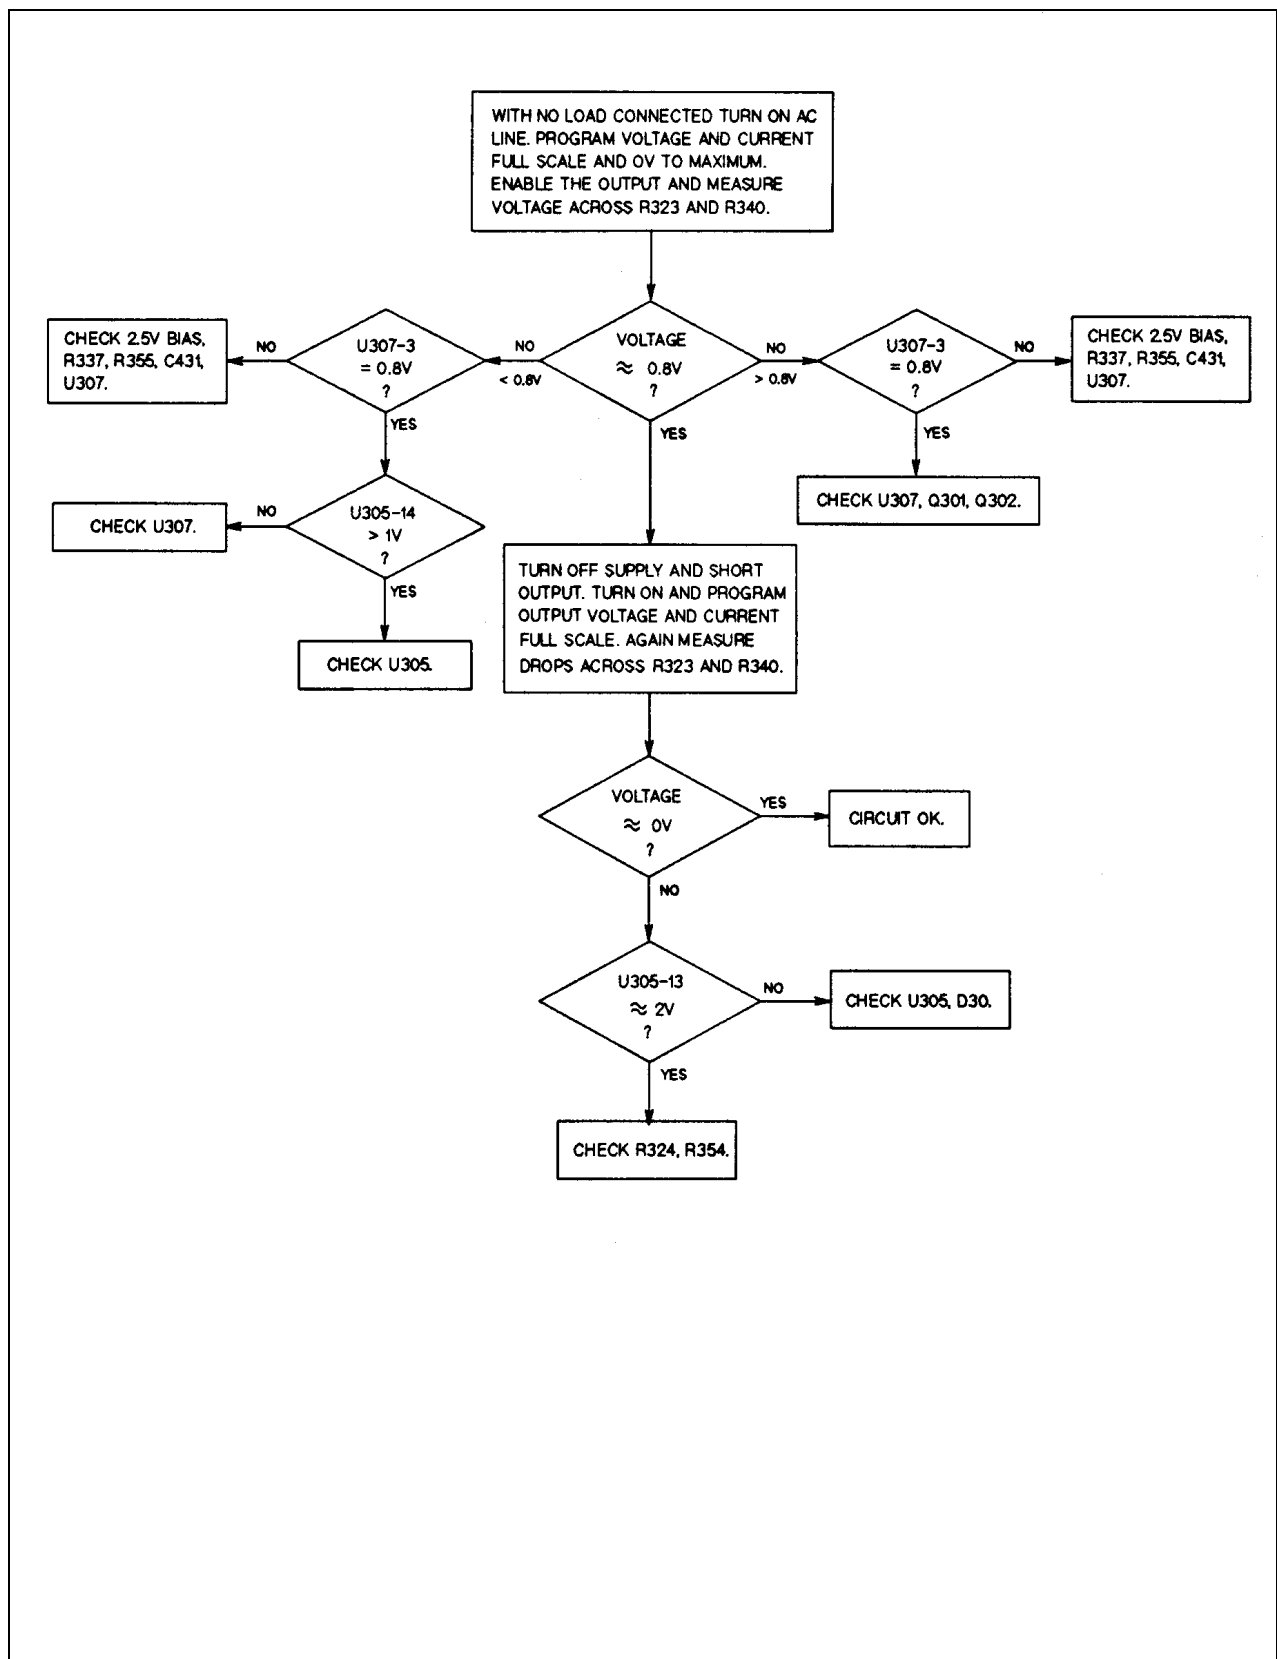

Figure 3-10. Troubleshooting Downprogrammer
- Figure 3-10 - Troubleshooting Downprogrammer